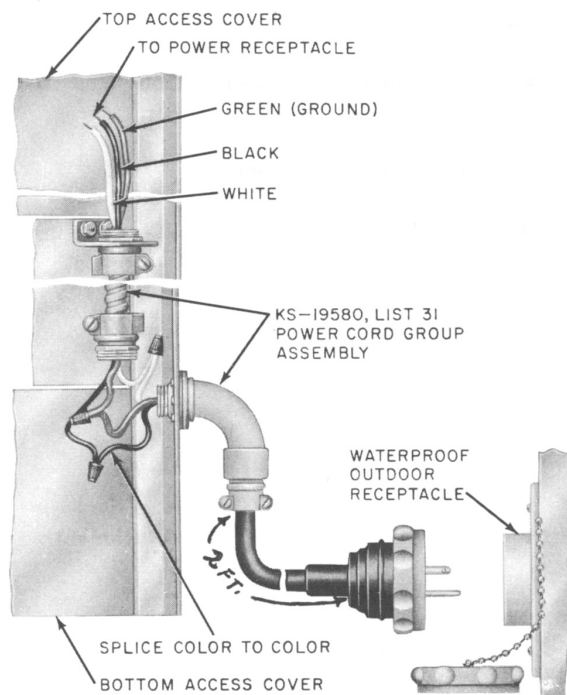

Fig. 20—KS-19580, List 31 Cable and Cord Group for Ground Level Entrance
2.26 KS-19580, List 31 power cord group (Fig. 20) is available for ground level power.
- 3.13 For ground level entrance with plug-in features, use KS-19580, List 31 power cord group and install per Fig. 20.